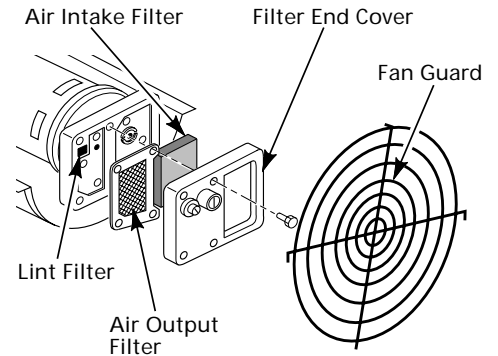
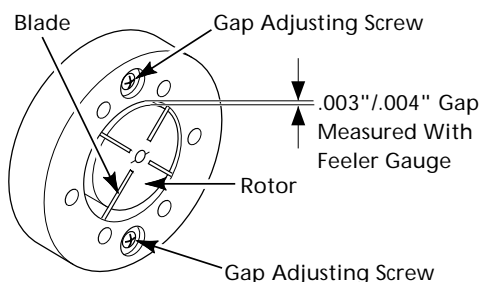

Figure 8 - Air Output, Air Intake, and Lint Filters
Figure 19 - Gap Adjusting Screw Locations
9. Check gap on rotor. Adjust to .003"/.004" if needed (See Figure 19).
14. Place fine grade sandpaper (600 grit) on flat surface. Sand rotor lightly in "figure 8" motion four times (See Figure 19).